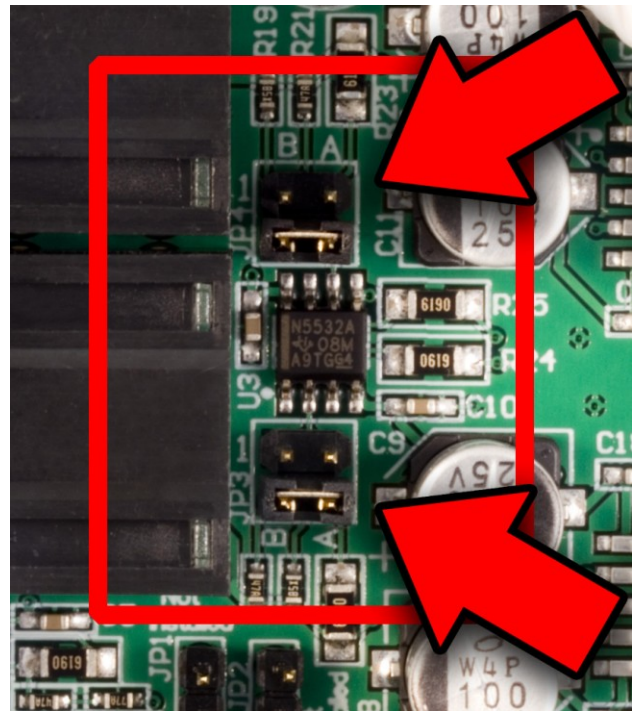

Figure 5 - HPA2™ Gain is - 10 dB
- **Gain = - 10 dB** - see **Figure 5** (Factory Default)